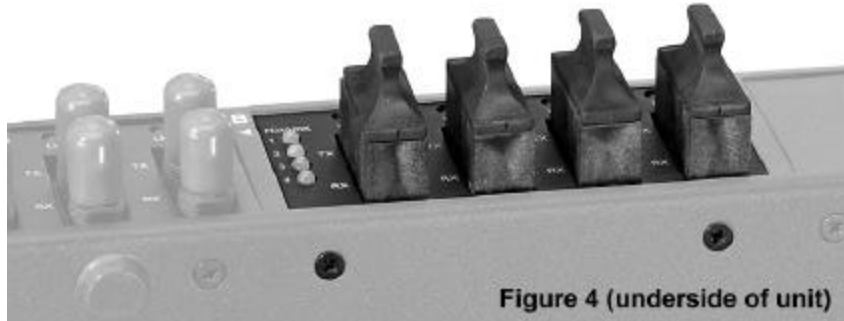

Figure 4 (underside of unit)
**STEP 4:** To complete the installation process for any particular port module, do not forget to fasten the additional two screws on the underside of the unit that securely connect the module to the front of the unit (**highlighted in Figure 4**).